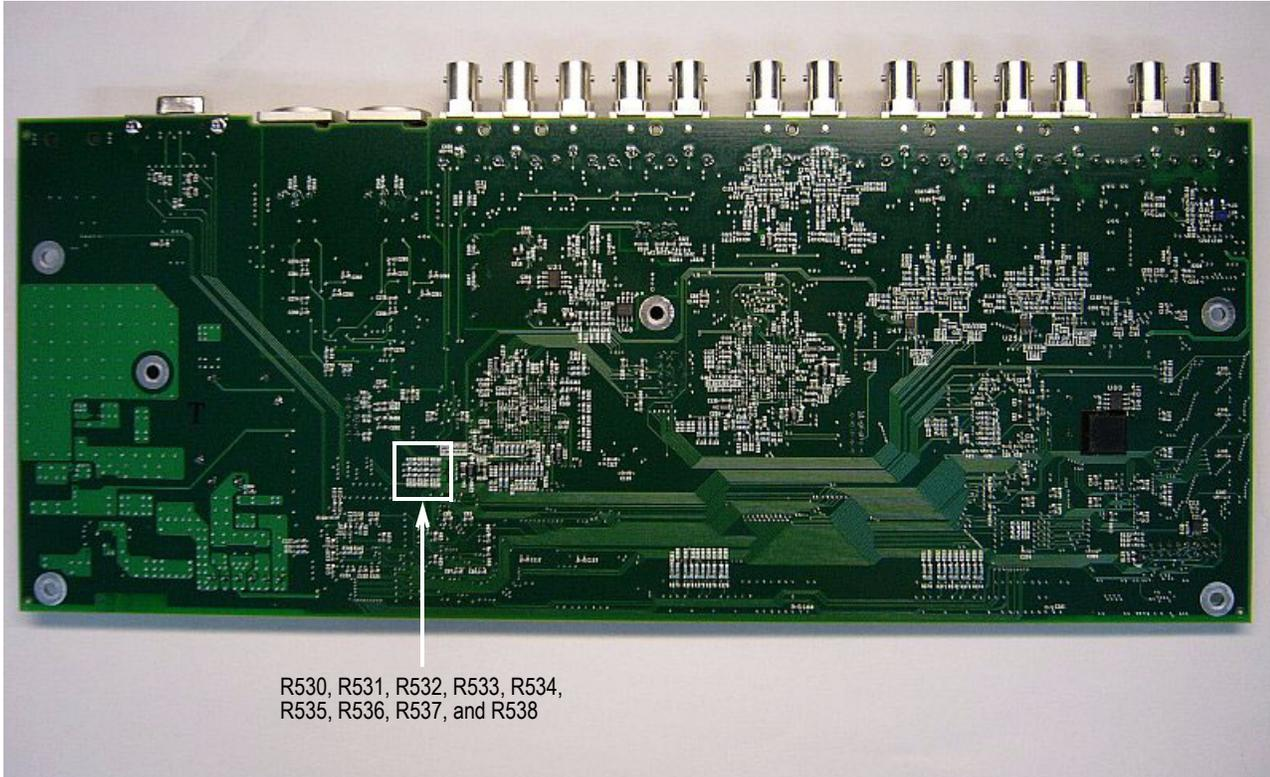

Figure 7: A10 Main board view (reverse side), showing location of the resistors
14. Locate R530, R531, R532, R533, R534, R535, R536, R537, and R538 on the reverse side of the A10 Main board. See Figure 7.